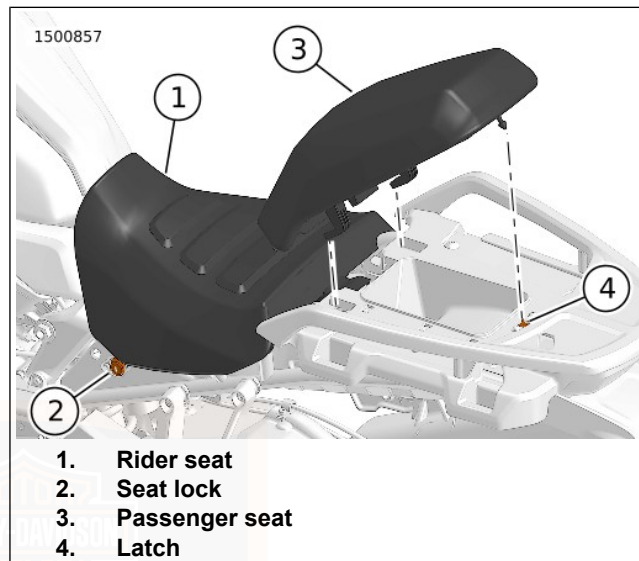
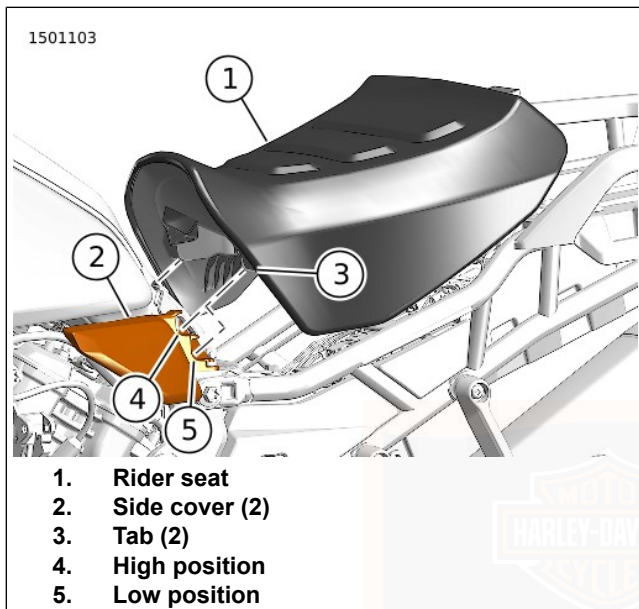

Figure 83. Passenger Seat
Figure 84. Rider Seat (Two-piece)
1. See Figure 83. Insert key in seat lock (2).
2. Turn key to release latch (4).
3. Lift up then back on passenger seat (3) to remove.
4. Lift up then back on rear of rider seat (1) to remove.
1. See Figure 84. Insert tabs (3) of rider seat (1) into high position (4) or low position (5) slots in side covers (2).
2. Lower rear of rider seat (1) into position.
3. See Figure 83. Engage tabs on passenger seat (3) in slots of seat support.